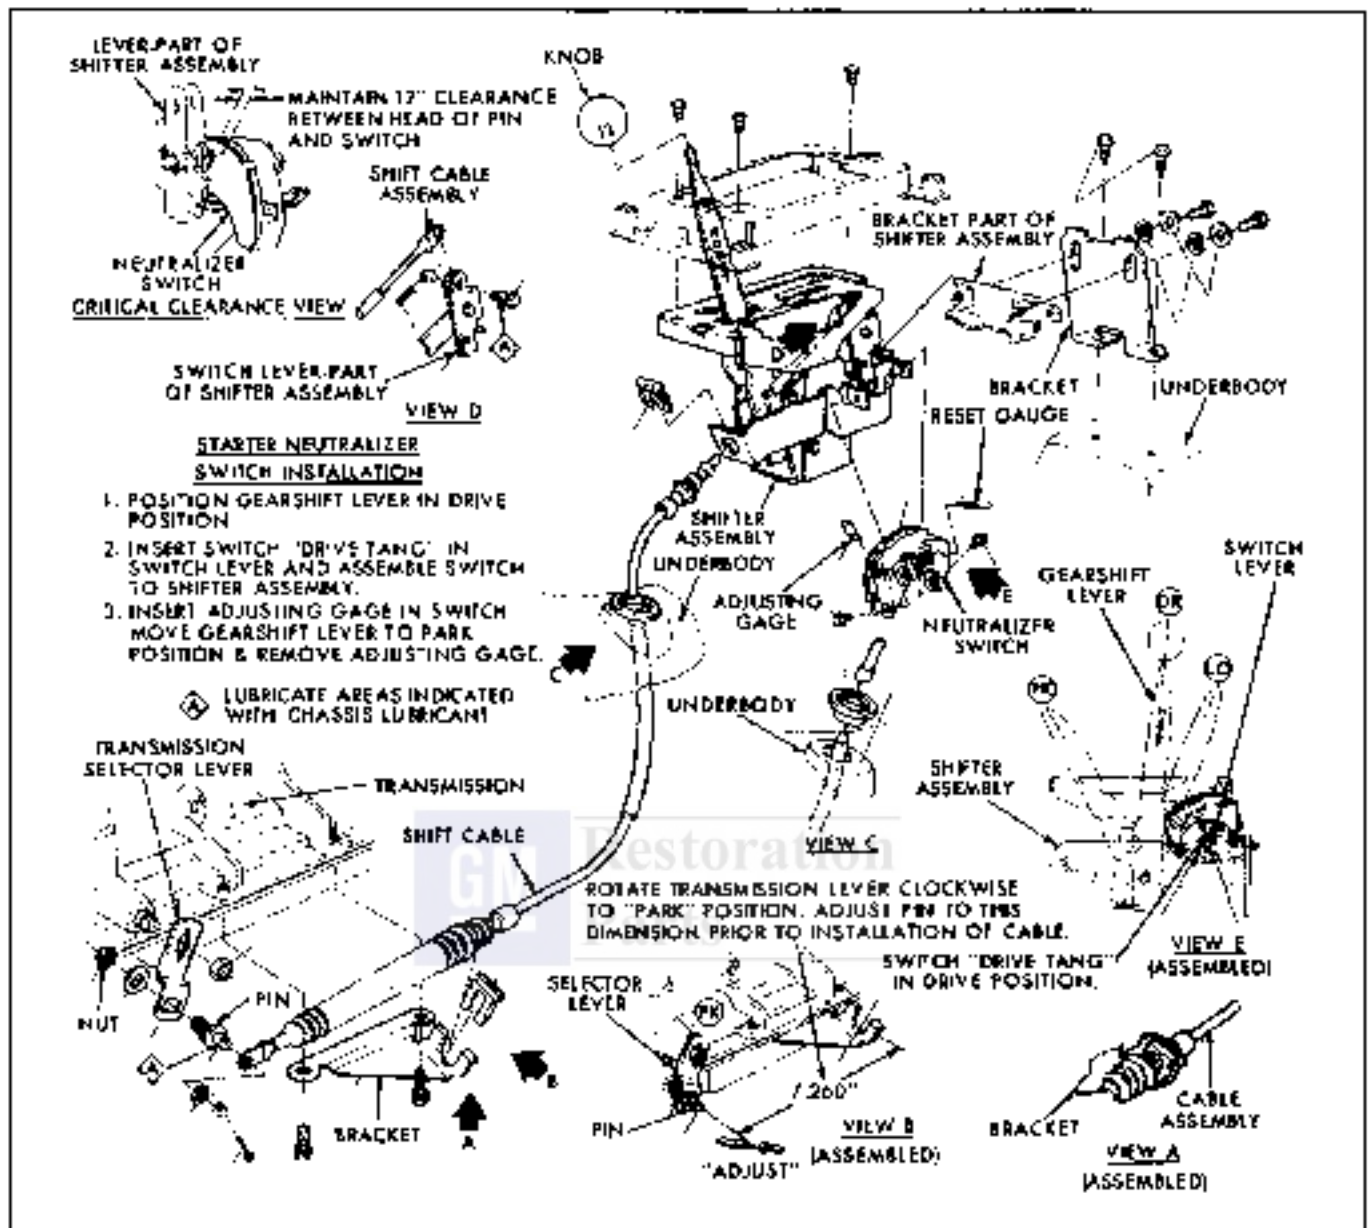

Fig. 7E-7 Gearshift Controls (Console) - B10
2. Compress regulator boost valve bushing against pressure regulator spring and remove snap ring, using snap ring pliers and tool as shown in Fig. 7E-9.